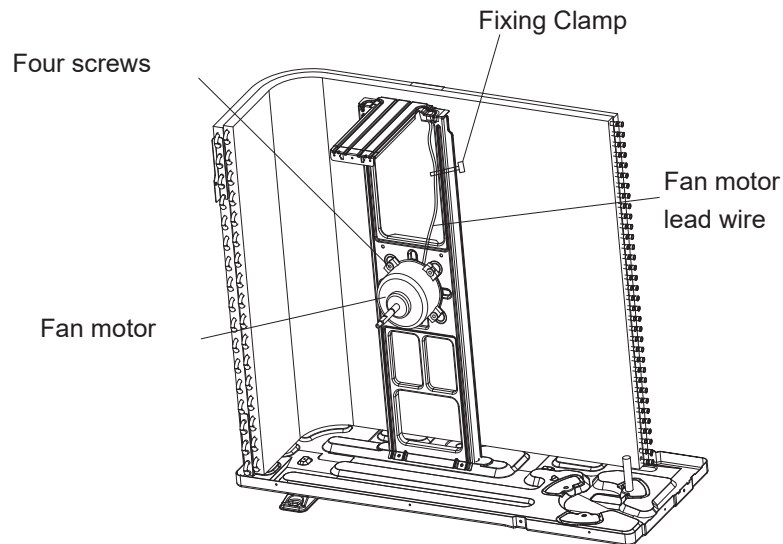

Fig.2.6
5. Remove 4 screws which fix the motor as is shown in Fig.2.6.